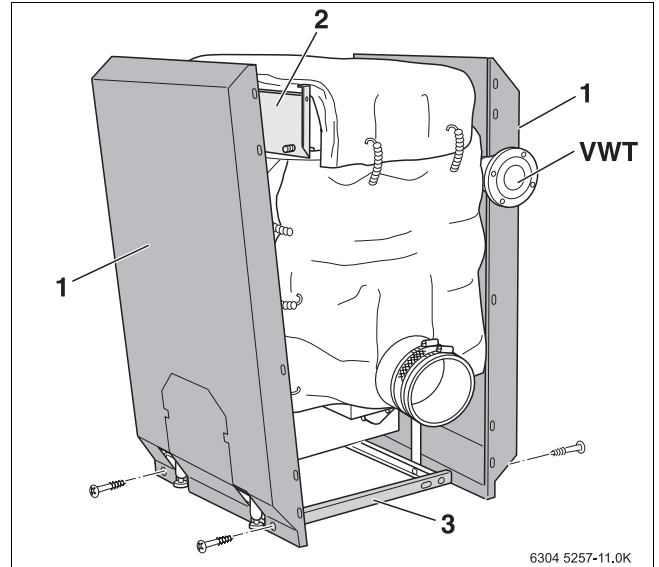
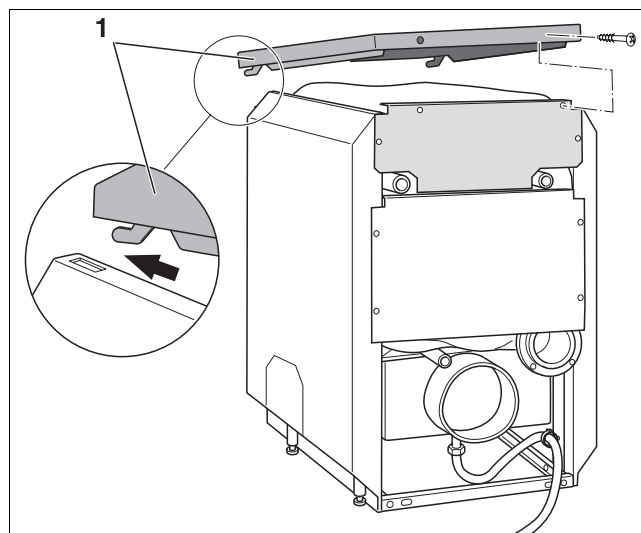
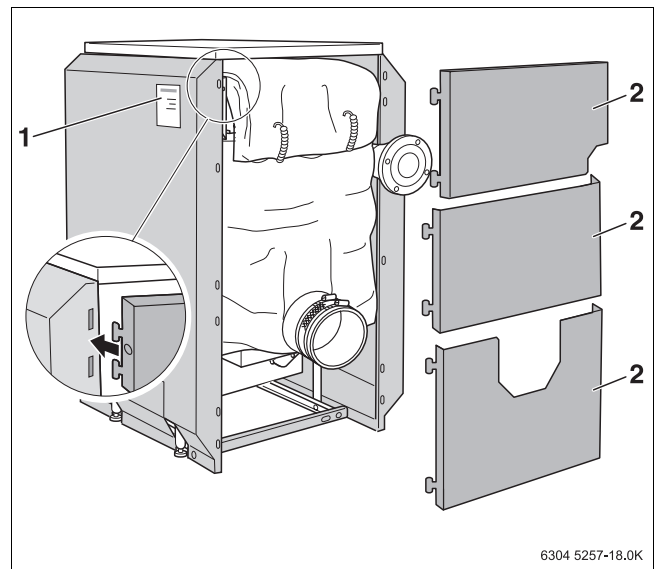

Fig. 12 Fitting the side panels
Fig. 15 Fitting the hood
Fig. 19 Fitting the front panel sections
3.	Remove the hood of the flue gas heat exchanger (→ Fig. 15)
4.	Open the clean-out cover on the flue gas distributor, check and clean the flue gas distributor, if necessary remove the flue gas distributor completely (→ Fig. 11, Fig. 19)
5.	Remove front panel/casing (→ Fig. 12, Fig. 15, Fig. 19)